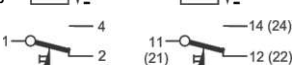

Fig. 1c
- Check-out lever (5)
- Cable entry grommet (6)
- Pressure Connection (7)
- Connect wires to terminals by considering switch functions as shown in Fig. 1a to Fig. 1c.